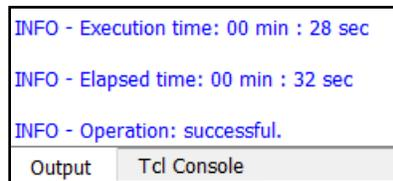

Figure 8.15. Message on Successful Programming
- On the output window, verify that the status of the program device is *Operation: successful*, as shown in Figure 8.15.